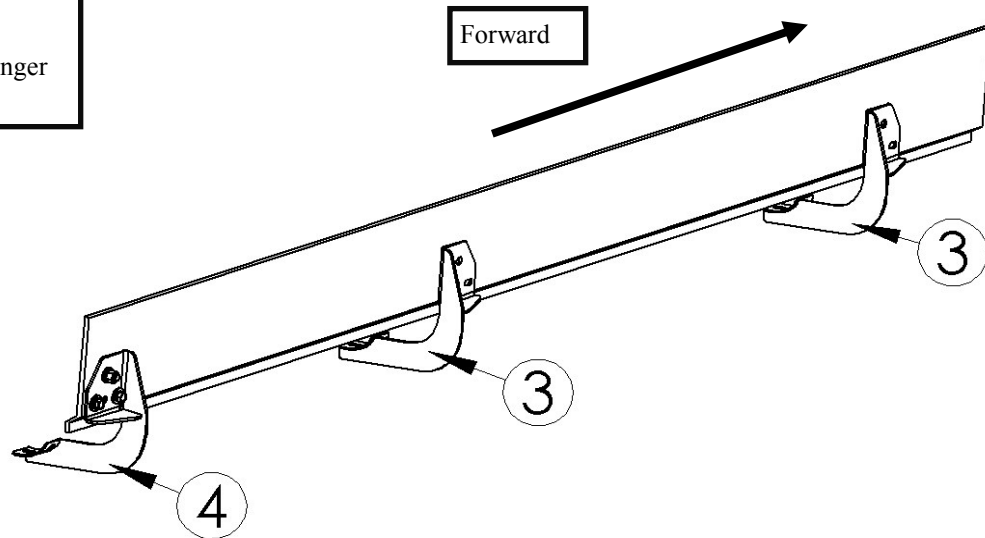

Fig. 6
4. Repeat step 2-3 for the rest of the drivers and passenger side brackets. Refer to **Figure 6** for proper bracket orientation.